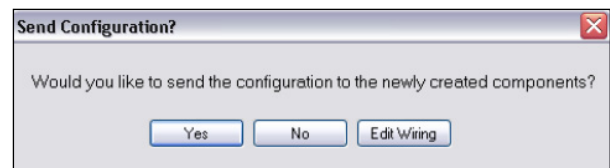

Figure 18: Send Configuration Confirmation Box
1. Click **Finish**. The **Send Configuration** dialog box opens. Refer to **Figure 18**.